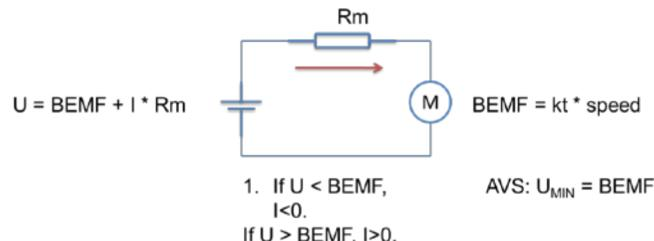

Figure 14. Mechanical AVS
Mechanical energy is typically returned to the power supply when the speed command is abruptly decreased. If the voltage applied to the phase becomes less than the BEMF voltage then the motor will work as a generator and current will flow from the motor back to VCC. This is illustrated in Figure 14. To prevent this from happening, the DRV10963 buffers the speed command value and limits the rate at which it is able to change. The AVS function acts to ensure that the effective output amplitude (U) is maintained to be larger than the BEMF voltage. This prevents current from becoming less than zero. The value of BEMF used to perform this function is calculated by the motor K_t and the motor speed.
The lower two pictures in Figure 14 illustrate how the AVS circuit in the DRV10963 device prevents this energy from being returned to the supply. When the AVS condition is detected the DRV10963 device will act to turn on the low side device designated as S6. This allows the current flowing in the motor inductance to be returned to ground instead of being directed to the VCC supply voltage.